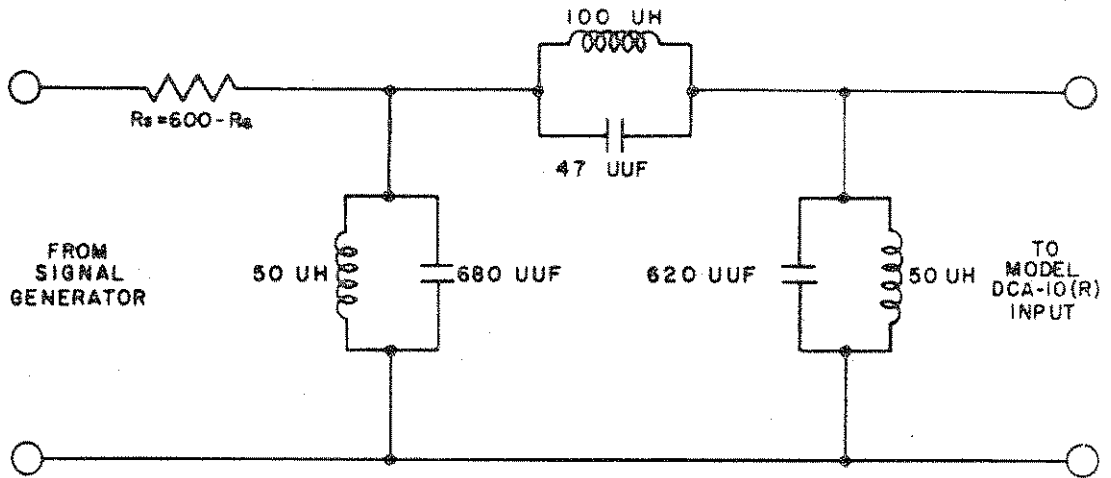

Figure 6 - Band-Pass (Purifying) Filter for Obtaining a Pure 1 mc Signal
Since the typical Model DCA-10 Amplifier distortion at 1 mc is approximately 2-3%, a signal generator with less than 1% distortion is required for this measurement. If a generator with this distortion specification is not available, a band-pass (purifying) filter, shown in Figure 6, can be constructed to obtain a suitable distortion-free 1 mc source.
- a. Sine-wave generator of approximately 10 volts rms maximum output at 1 mc with less than 1% distortion. If a generator with less than 1% distortion is not available, the purifying filter, shown in Figure 6, must be used. Since the filter has a gain of approximately five, a generator with approximately 2 volts rms output at 1 mc is sufficient.
of the sine-wave generator is less than 1%. If the distortion of the 1 mc source is greater than 1%, which is true for most commercial generators, insert the purifying filter, shown in Figure 6. This filter is designed to operate with a 600 ohm source. If the sine-wave generator has an internal impedance of 600 ohms, no additional series resistor,  $R_s$ , is required. If the generator source impedance is lower than 600 ohms, it is necessary to add a resistor so that the sum of  $R_s$  and the generator source impedance is equal to 600 ohms.